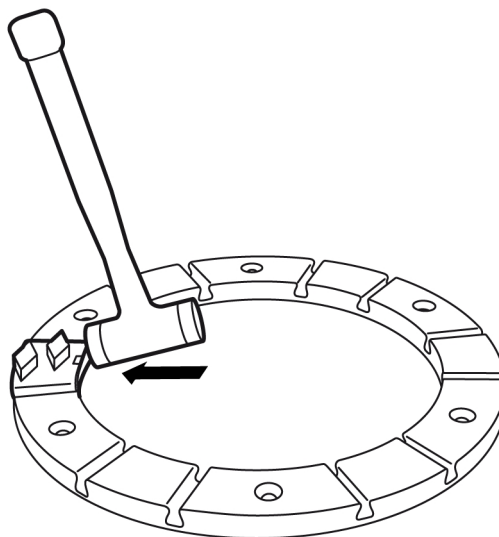

Figure 4-3. Locking grinding tools
2. Lock the grinding tool into the tool holder by giving it a few light taps with a rubber hammer - see Figure 4-3, page 16.
3. Lock the grinding tool into the tool holder by giving it a few light taps with a rubber hammer - see Figure 4-3, page 16.